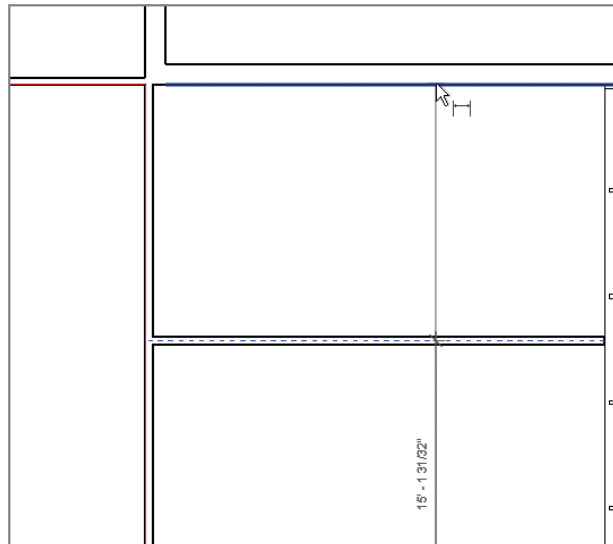

FIGURE 1.24 Use the Tab key to toggle between wall references before you place a dimension.
9. Hover the mouse pointer over one of the two exterior walls, and notice that the centerline of the wall is the default reference. Press the Tab key until you see the inside face of the wall highlight, as shown in Figure 1.24, and then click to add the dimension. Repeat this process for the exterior wall on the other side.